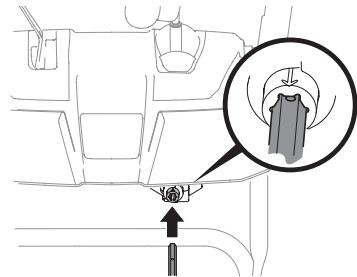

Figure 24
6. Insert chute control rod into pinion gear under handle panel. Make sure to line up hole in rod with arrow on pinion gear (Figure 24).